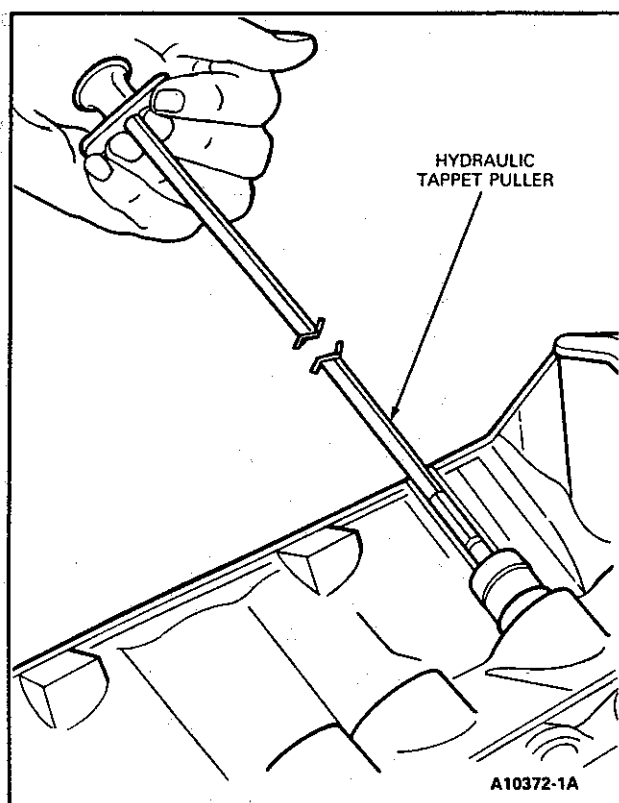

Figure 51 Removing Valve Lifter
4. Using correct Tool shown in Figure 51, remove the valve lifters and place them in a rack so that they can be installed in their original bores.